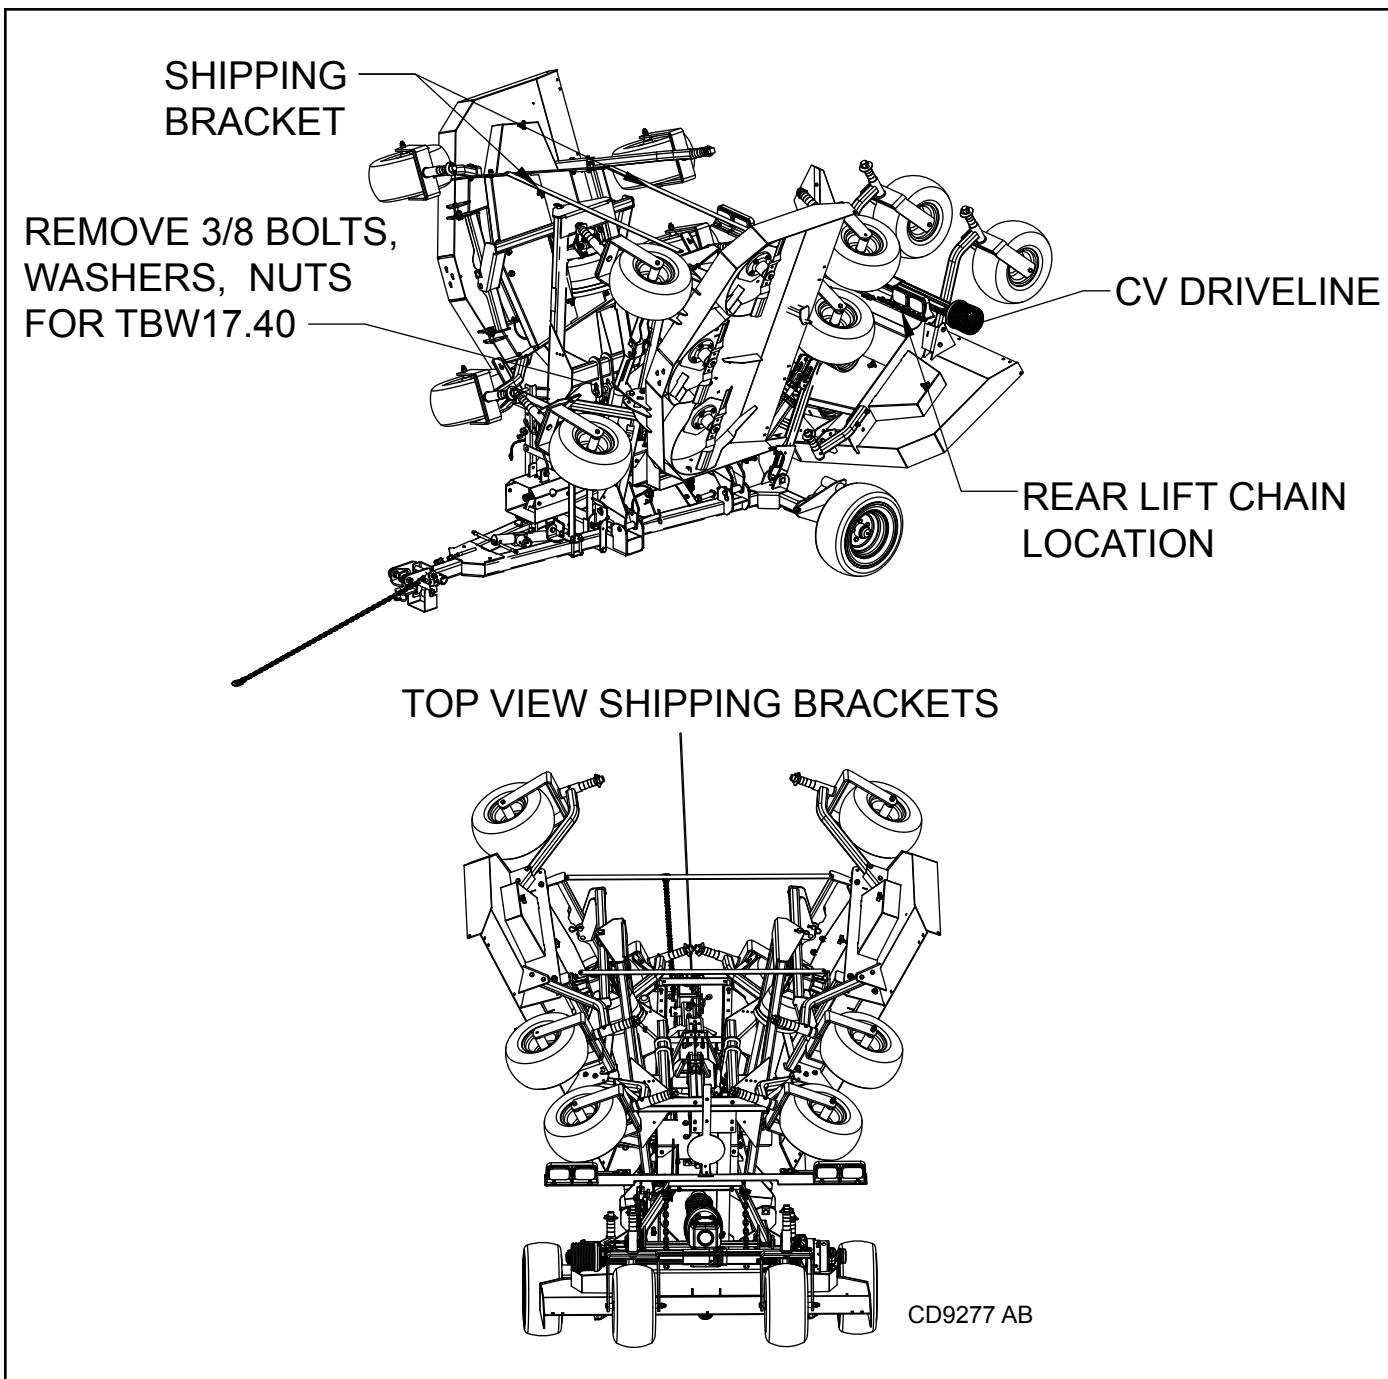

Figure 32. Remove Shipping Strap (Right Wing)
5. Remove 3/8" bolts, washers, and nuts from both rear lift chains. See Figure 32. This hardware is for factory shipping purposes only and can be discarded.
8. Remove 1/2" lock nuts and remove shipping strap from between right and left decks. Figure 32. Reinstall 1/2" lock nuts on front bolts and tighten to 85 ft-lbs.